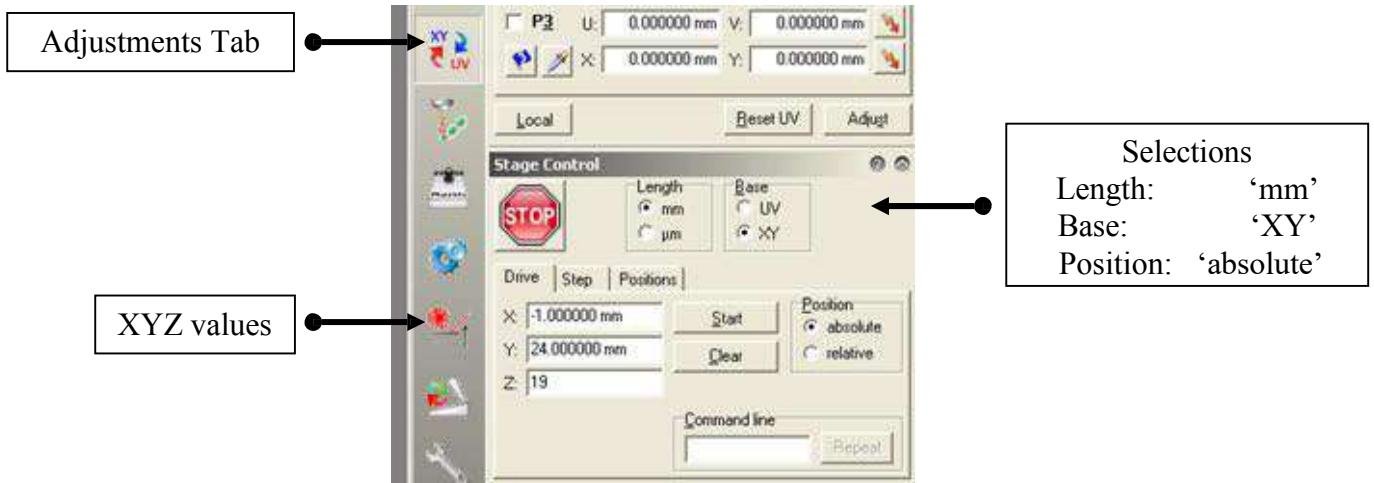

Figure 12 Raising stage and driving to sample position using Stage Control
10. After loading the sample holder, the stage should be raised to  $Z = 19$  mm as shown in Fig. 12. To drive to your chip, you may either (i) input the XY co-ordinates if known, or (ii) navigate using the joystick. In addition, make sure the **mm**, **XY**, and **absolute** dialog buttons are selected as shown.